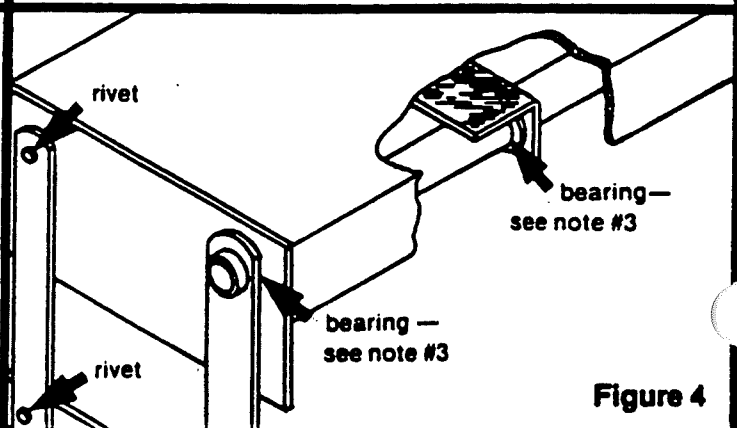

Figure 4
3. Figure 4 - 1" O.D. tube bearing - lubricate around drive tube and between head of bearing and drive leg.